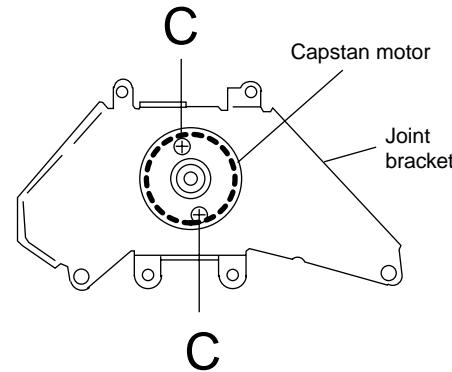

Fig.8
■ Removing the capstan motor (See Fig. 8)
■Removing the tweeter speaker (See Fig.8)